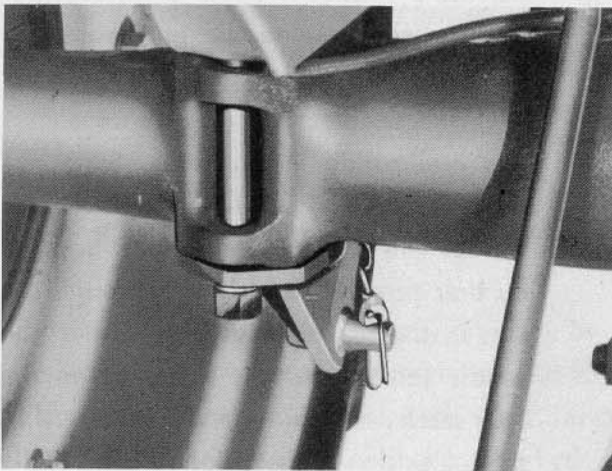

Figure 6
- b. Attach stabilizer brackets as shown in Figure 6. Secure with lockwashers and nuts.